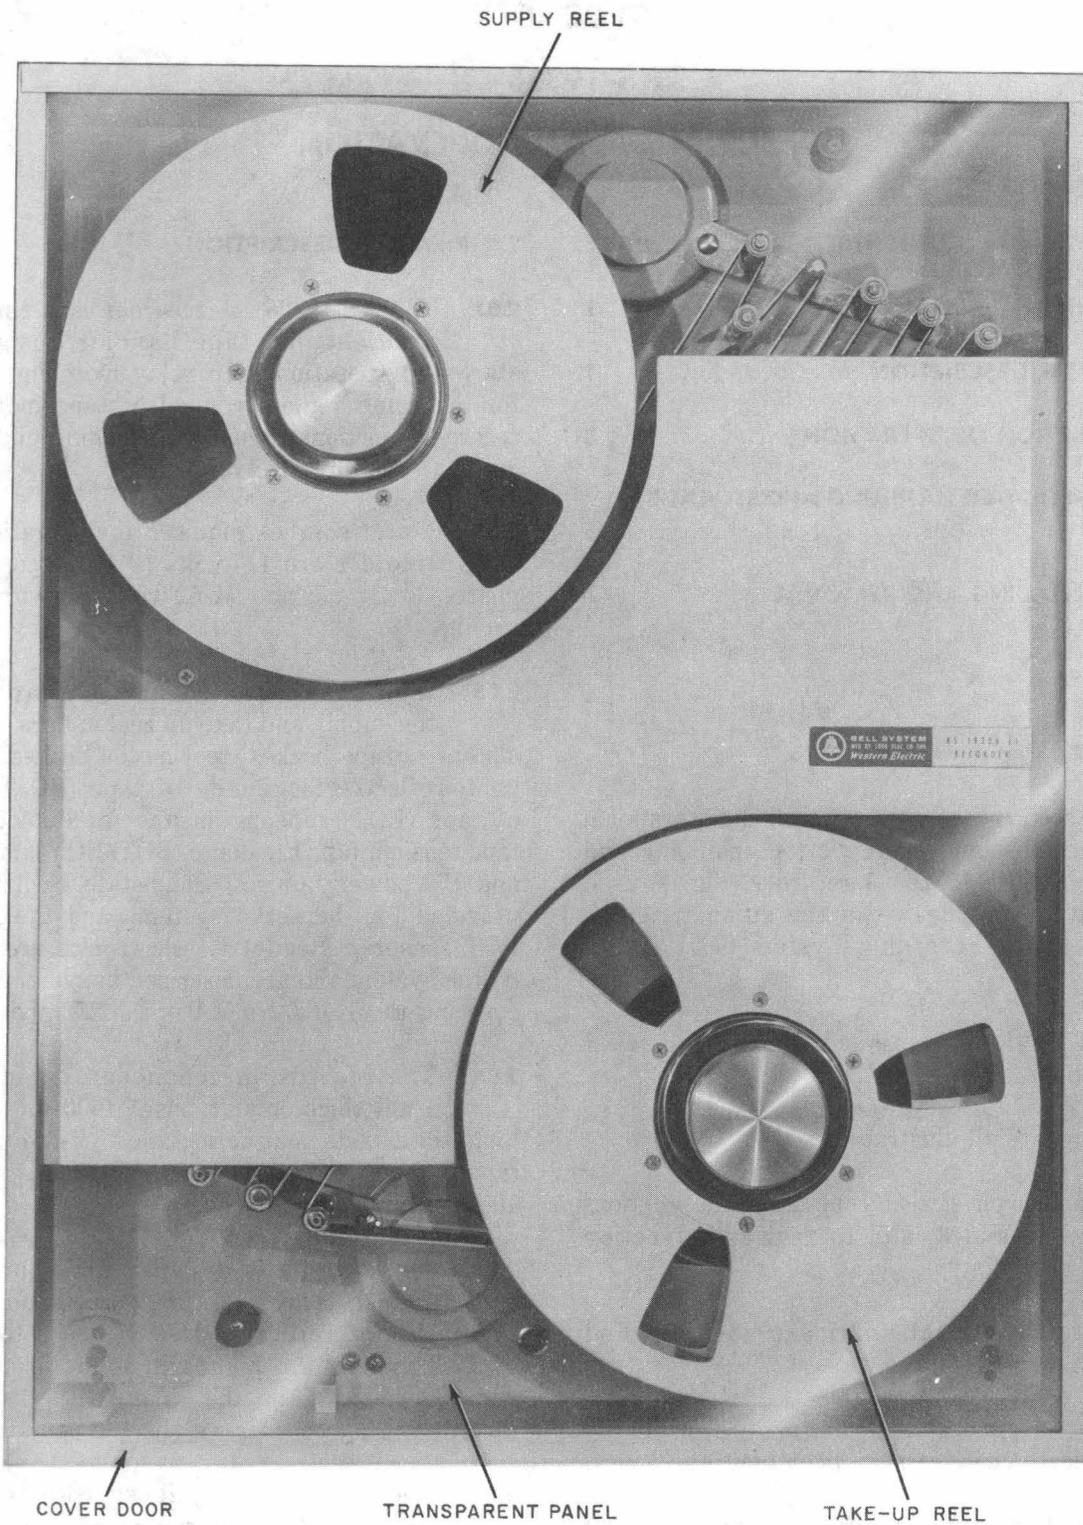

Fig. 1—KS-19326 L1 Recorder—Front View
1.01 This section covers the physical and operational description, and magnetic tape handling and storage for the KS-19326 L1 recorder (Fig. 1) used as an input/output device in the summarizer of the Traffic Data Recording System (TDRS) No. 1A.